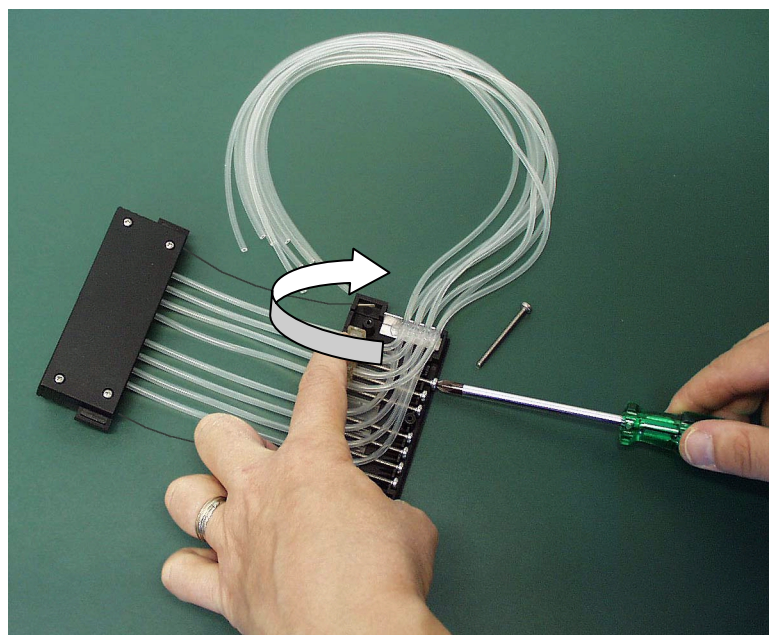

Fig. 7.25 Fastening the calibration screws
10. Fasten the calibration screws from the previous tubing into their places using a hexagonal screwdriver (Fig. 7.25).